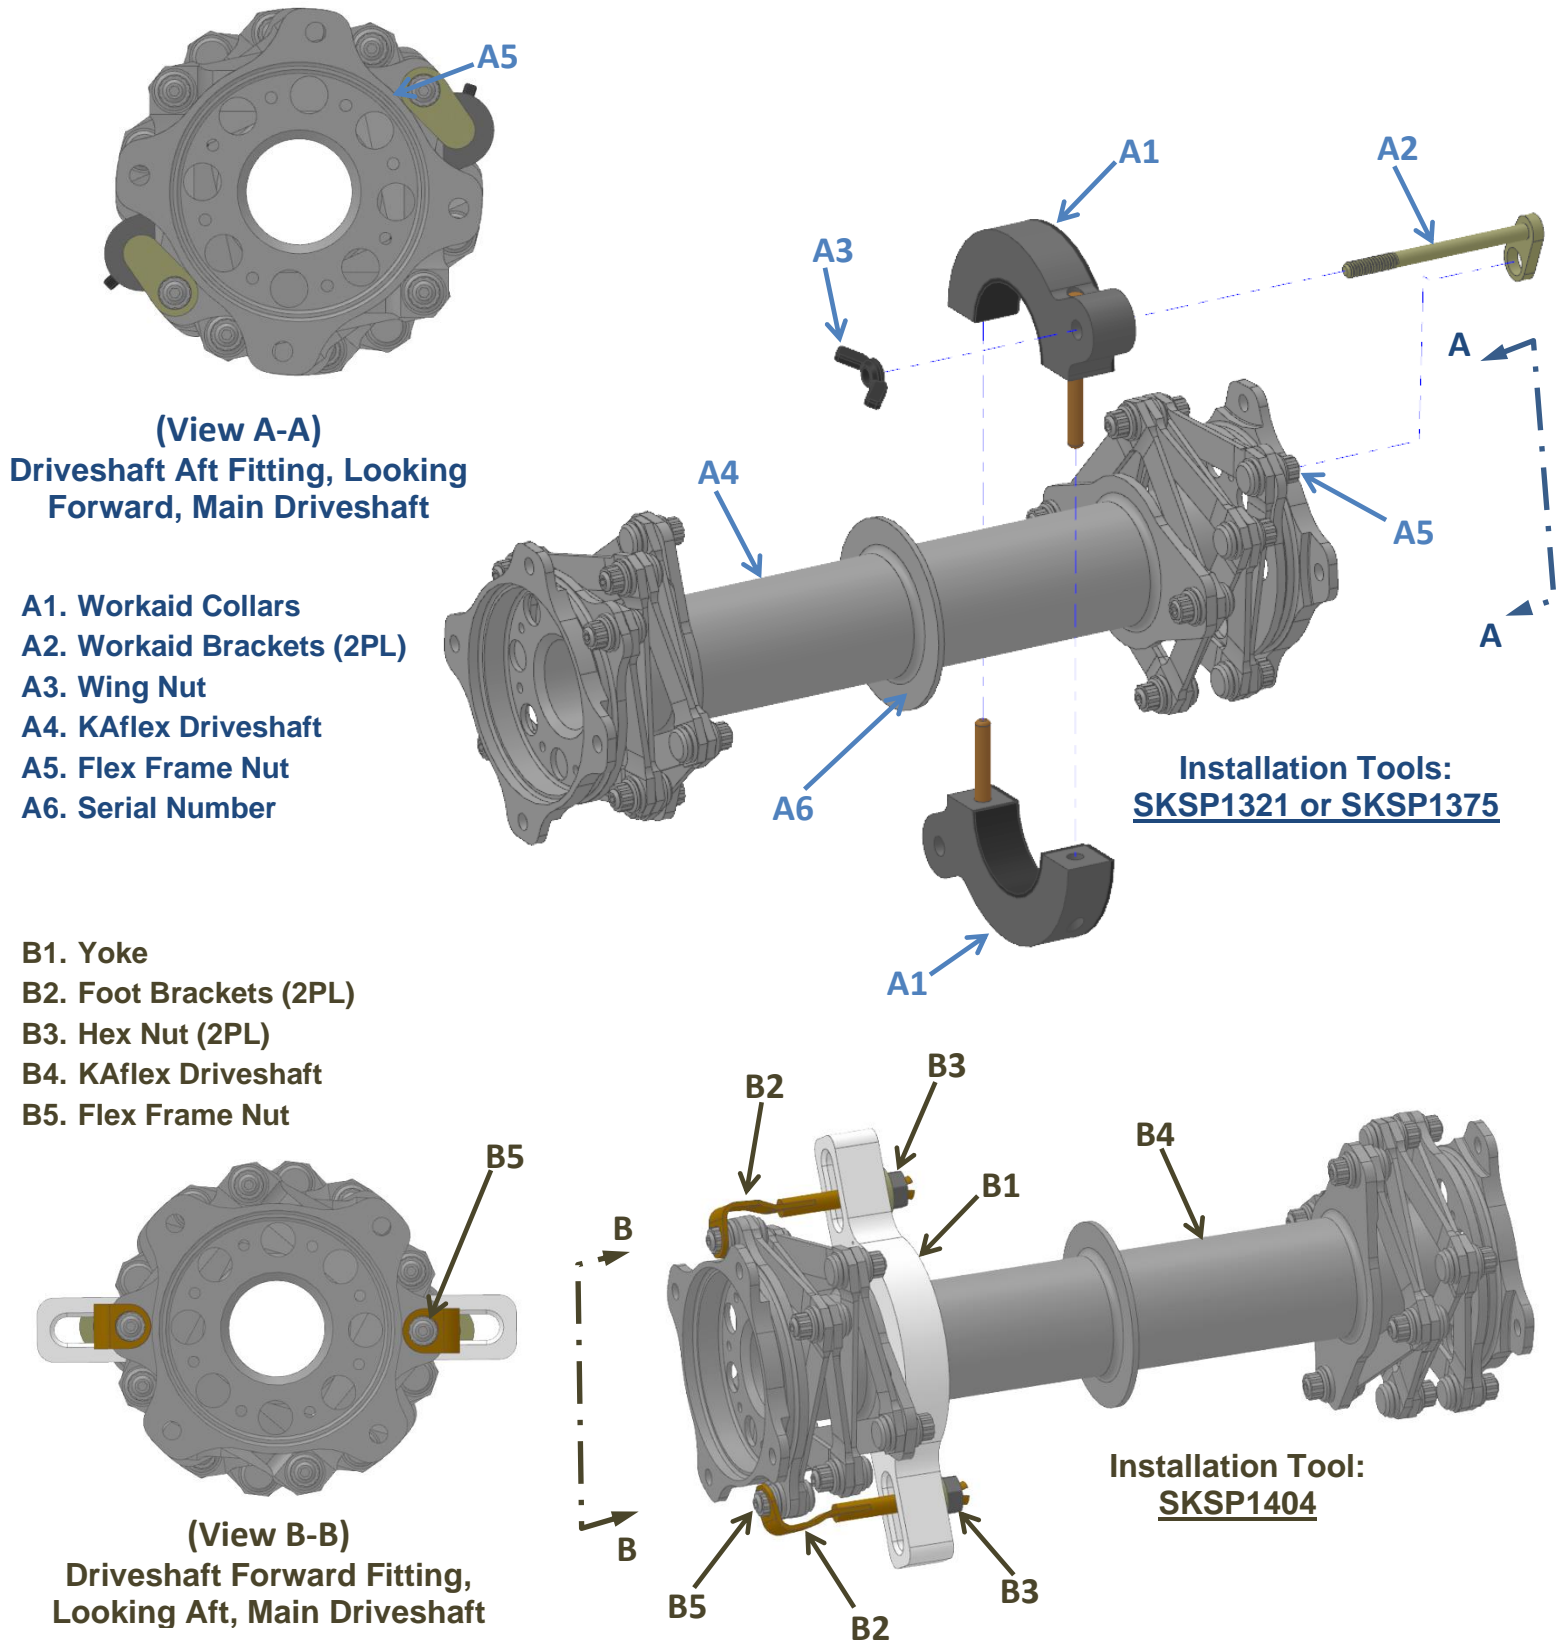

FIGURE 3: Installation of Workaid
Compress couplings with Kamatics installation tool (Figure 3) just enough to release them from mating adapter flange. If couplings are compressed beyond 0.370", damage to coupling may occur.
5. KAflex Driveshaft Installation (Figures 3 and 4)
- a. Install Workaid on KAflex Driveshaft by installing Workaid collars over driveshaft and attach tightening screws with nuts (Figure 3). Compress forward frames. Position lugs of the two tightening screws over nut attaching end fitting to flex frame of KAflex Driveshaft (Figure 3). The KAflex Driveshaft will be installed with the serial number aft to facilitate future maintenance and inspections. Orientation does not affect function of the KAflex Driveshaft.
- f. Install workaid per Figure 3 on KAflex Driveshaft by installing workaid collars over driveshaft and attach tightening screws with nuts. Compress forward frames. Position lugs of the two tightening screws over nut attaching end fitting to the flex frame at aft end of KAflex Driveshaft. The KAflex Driveshaft will be reinstalled with the serial number aft to facilitate future maintenance and inspections. Orientation does not affect function of the KAflex Driveshaft.
- a. Install workaid per Figure 3 on KAflex Driveshaft by installing workaid collar(s) over driveshaft and attach tightening screws with nuts. Position lugs of the two tightening screws over nut attaching end fitting to flex frame of KAflex Driveshaft (Figure 3). The KAflex Driveshaft will be installed with the serial number aft to facilitate future maintenance and inspections. Orientation does not affect function of the KAflex Driveshaft.